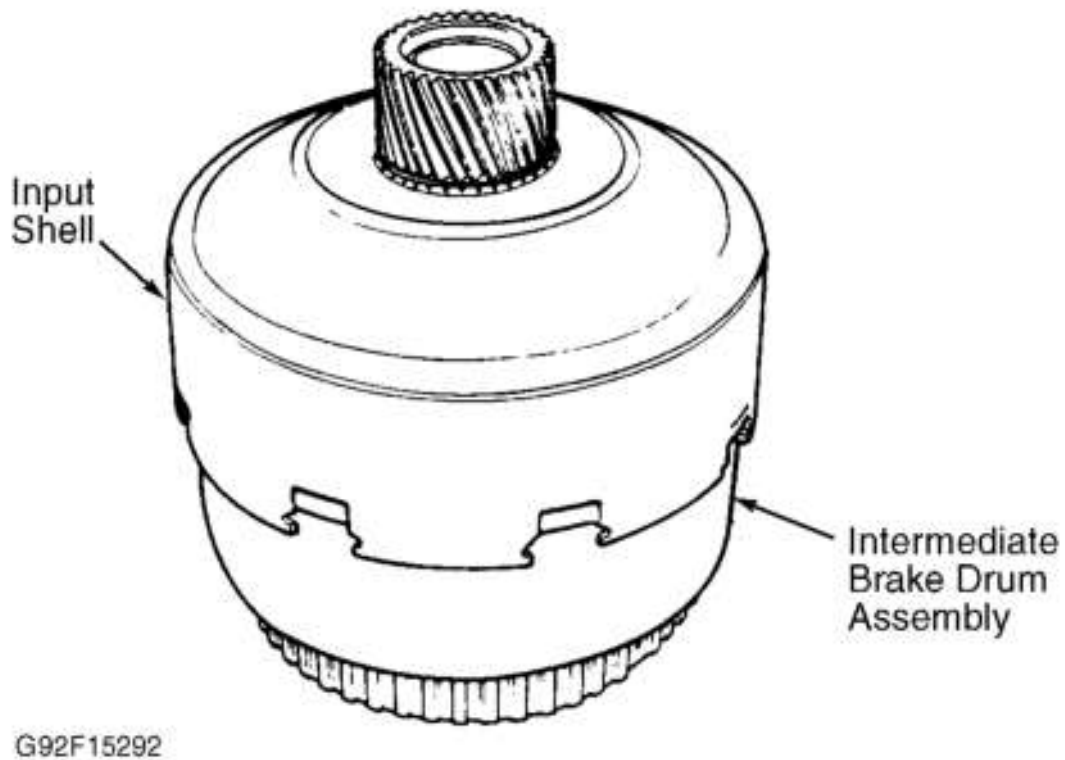

Fig. 26: Assembling Direct Clutch, Forward Clutch & Input Shell
3. Align input shell notches with intermediate brake drum. Install input shell on assembly and rotate until fully seated. See **Fig. 26**. Install needle bearing into front end of forward clutch assembly. Install Intermediate Brake Drum, Forward Clutch and Input Shell Remover-Installer (T89T-70010-E) and proceed to **TRANSMISSION REASSEMBLY**.